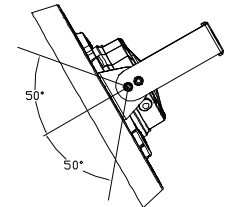

Figure7
4. After installation, connect the wire of the fixture to the mains according to local wiring rules, ensure the connection is stable and make good protection on connection. By adjusting the brackets screws, user can adjust 50° to the left or right vertically(Figure7).